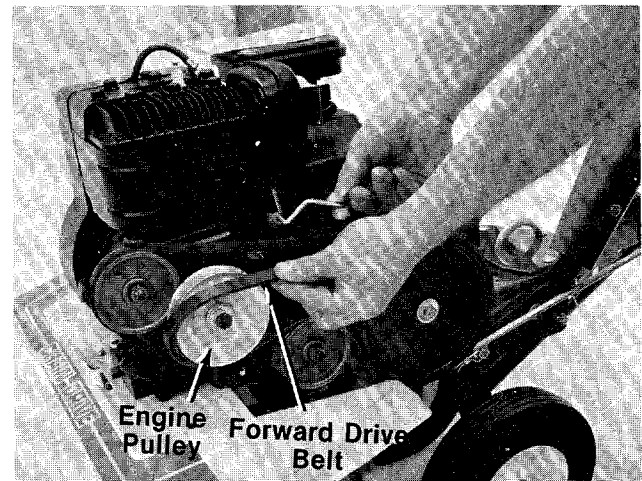

FIGURE 22.
4. Pull the shift lever back into reverse (R) position. Lift the forward drive belt off the engine pulley, flat idler and chain case pulley. See figure 22.